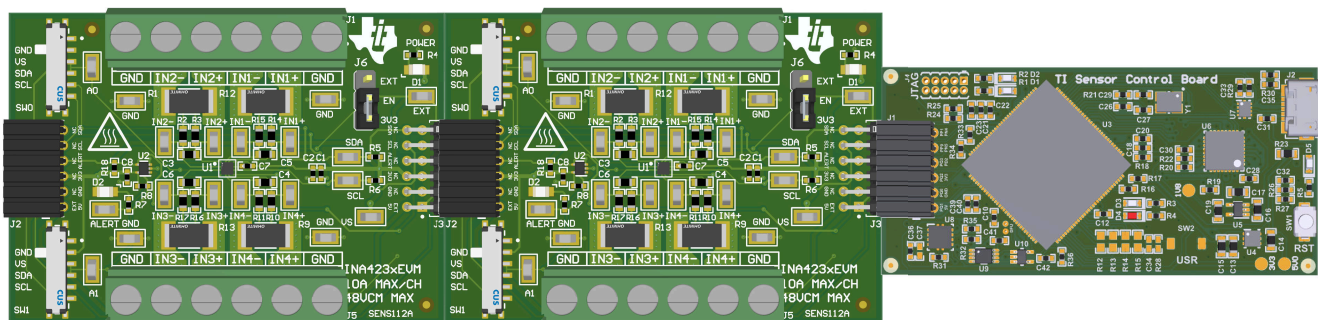

Figure 2-2. Multiple EVMs Connected to SCB Controller
- a. Refer to Figure 2-2 when connecting multiple EVMs of the same type together.
If using multiple EVMs, then connect as shown in Figure 2-2. Make sure to use a different address for each device. The GUI only supports one EVM and device type at a time; up to four EVMs total.